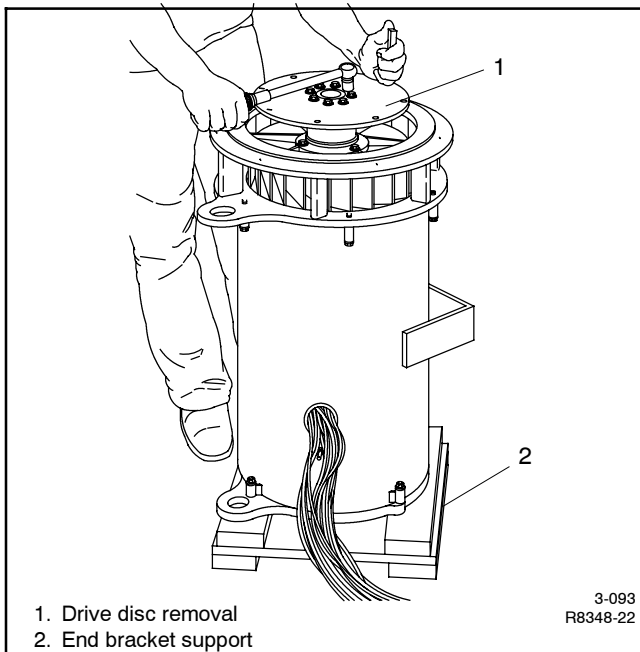

Figure 4-6 Alternator Support, Drive Disc, and Fan Removal
15. To remove the rotor assembly, hook hoist to adapter and place the alternator assembly on the floor in a vertical position. See Figure 4-6. Before lowering assembly, place boards along edge of end bracket to prevent damage to the photo transistor circuit board.
16. Remove the drive discs and fan from the alternator assembly. See Figure 4-6.